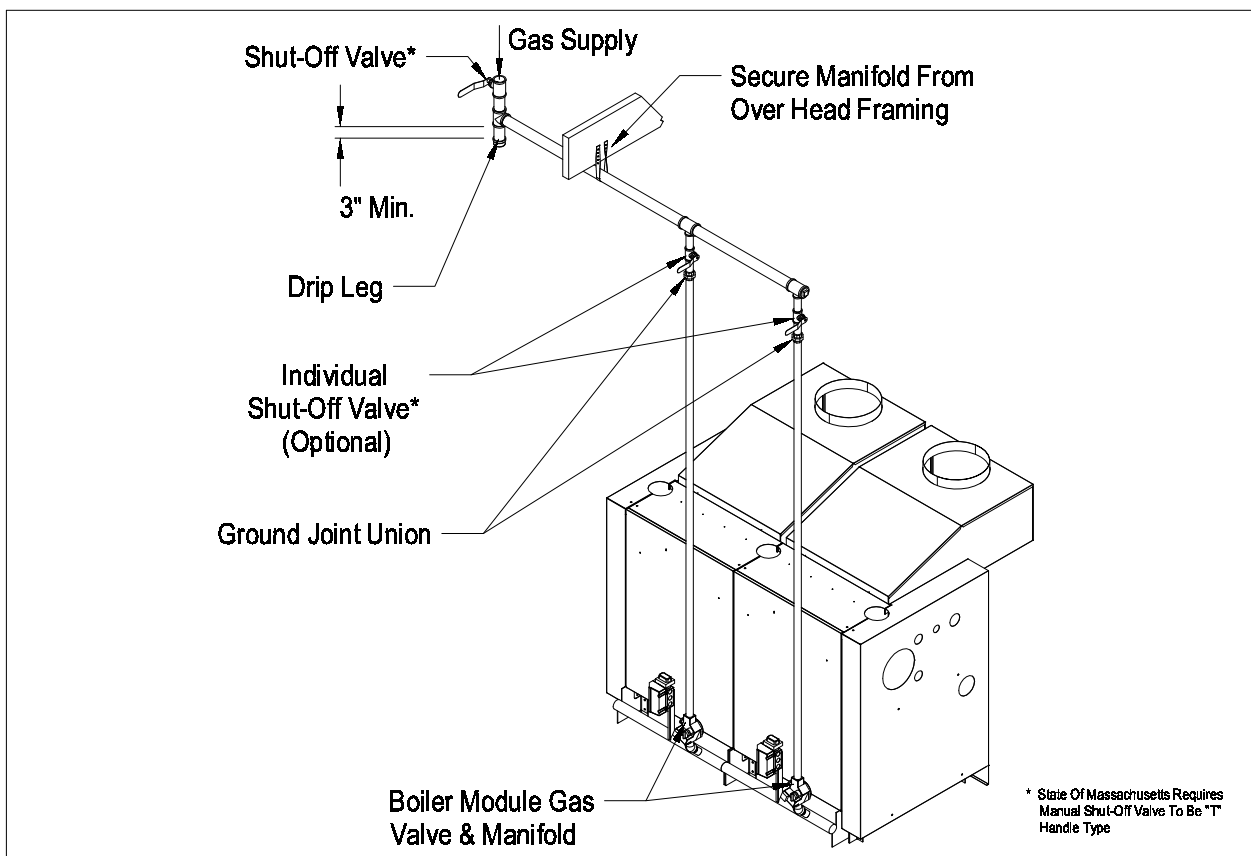

Figure 33: Gas Main Piping And Branch Connections To Boiler
- 2) Figure 33 shows the typical gas piping connection(s) to the Series 32 boiler. A sediment trap must be installed upstream of all gas controls. Install a manual shut-off valve and ground joint union as shown.